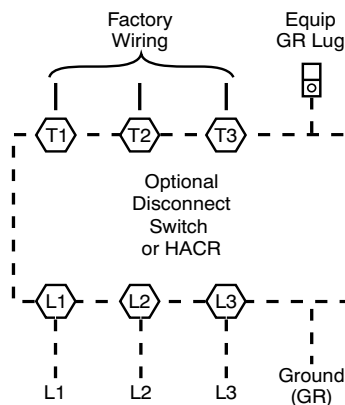

Fig. 26 — Power Wiring Connections
Size wire based on MCA (Minimum Circuit Amps) on the unit informative plate. See Fig. 26 for power wiring connections to the unit power terminal blocks and equipment ground. Maximum wire size is 2/0 AWG per pole.
3. Install power lines to terminal connections as shown in Fig. 26.